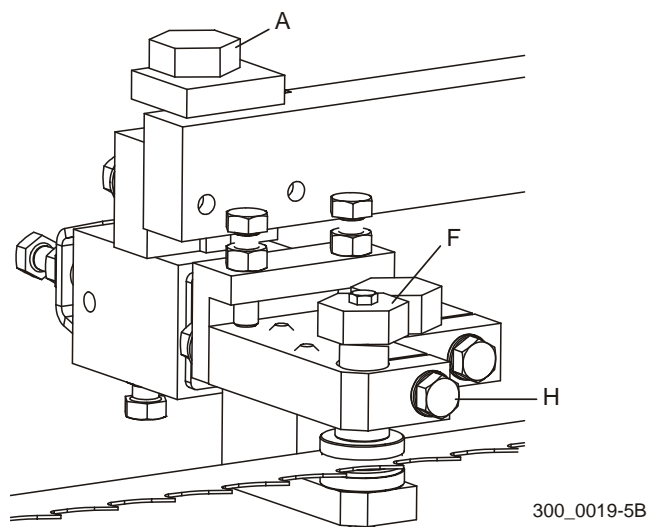

FIG. 7-16
See Figure 7-16. Turn bolt (F) counterclockwise to raise the top guide disk off the blade. Turn bolt (A) counterclockwise to lower the bottom guide disk.